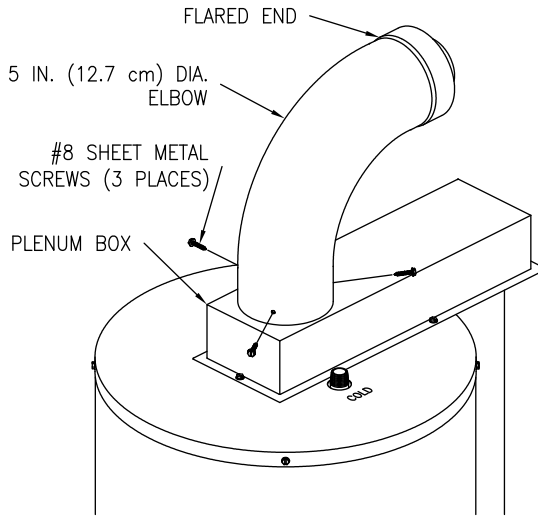

Figure 6
6. Place the straight end of the five (5) inch (12.7 cm) diameter elbow over the three (3) inch (7.6 cm) diameter elbow and plenum collar until seated on top of the plenum box. Make certain that the five (5) inch (12.7 cm) diameter elbow is oriented in the same direction as the three (3) inch (7.6 cm) diameter elbow and both are oriented in the correct direction. Drill three (3) 1/8 inch (3.0 mm) diameter holes, 120° apart, through the five (5) inch (12.7 cm) diameter elbow into the plenum collar. Fasten with three (3) #8 sheet metal screws (supplied) (See Figure 6).